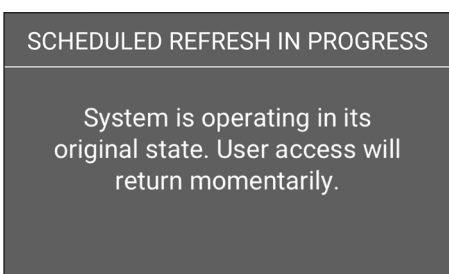

Figure 8. Scheduled refresh screen
3. The refresh screen will appear for several seconds and then the device will re-start into the state it was in prior to the refresh. (Fig. 8) Please note that this does not interrupt therapy being provided to the patient. The Guardian 2 System will remain active during the refresh process.